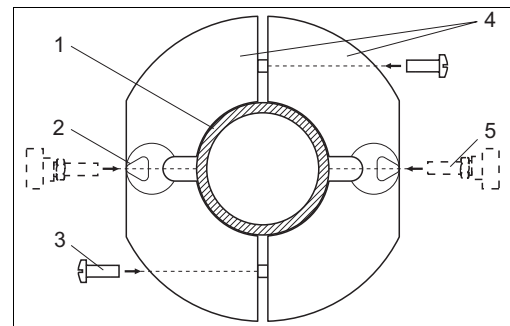

Fig. 12: Retaining ring
1. Put the half-shells (Fig. 12, pos. 4) of the adapter to the desired position of the assembly pipe.
2. Fix the half-shells with the Phillips screws (Fig. 12, pos. 3).
3. Screw the stop nuts onto the two knurled thumb screws (Fig. 12, pos. 5).